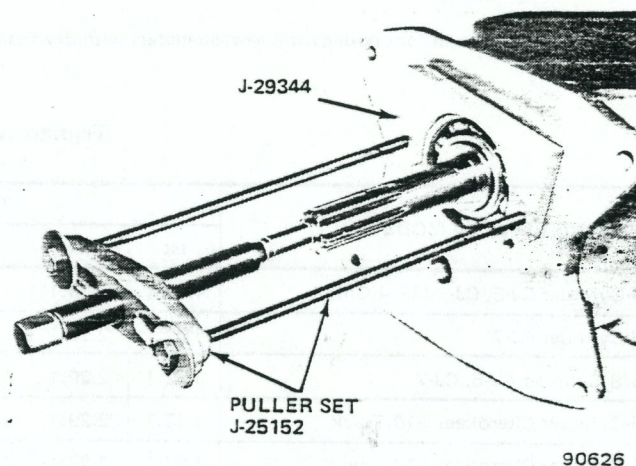

Fig. 2B-28 Clutch Shaft Front Bearing Removal
(19) Remove needle bearings and bearing retainers from gear assembly (fig. 2B-31). Remove sliding gear from idler gear. Note position of sliding gear for assembly reference.